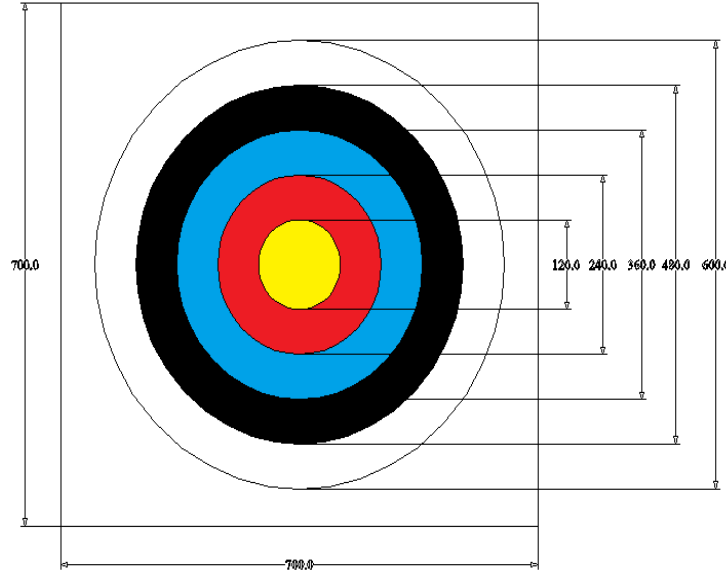

Figure-3- Target Board and Target Face Dimensions
The size of the target face is measured using the diameter of 5 circles, each enclosing a scoring zone. The tolerance of each diameter measurement should not exceed ± 3 mm for the zones (Figure-3).
- Dimensions of the coloured zones: The dimensions of the red zone are 700 mm x 400 mm, as shown in Figure-3. The dimensions of the green coloured zone (Bridge) are: length 800 mm, width 300 mm and maximum height 80 mm.